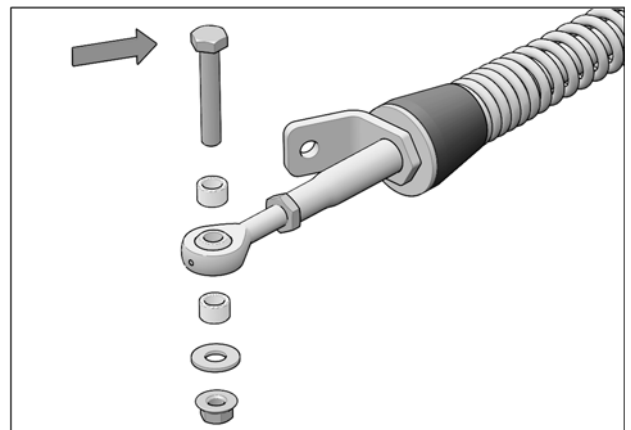

Fig. 3
- Remove bolts, washers, bushings, and nuts from rear stabilizing rod ends as shown in Fig. 3